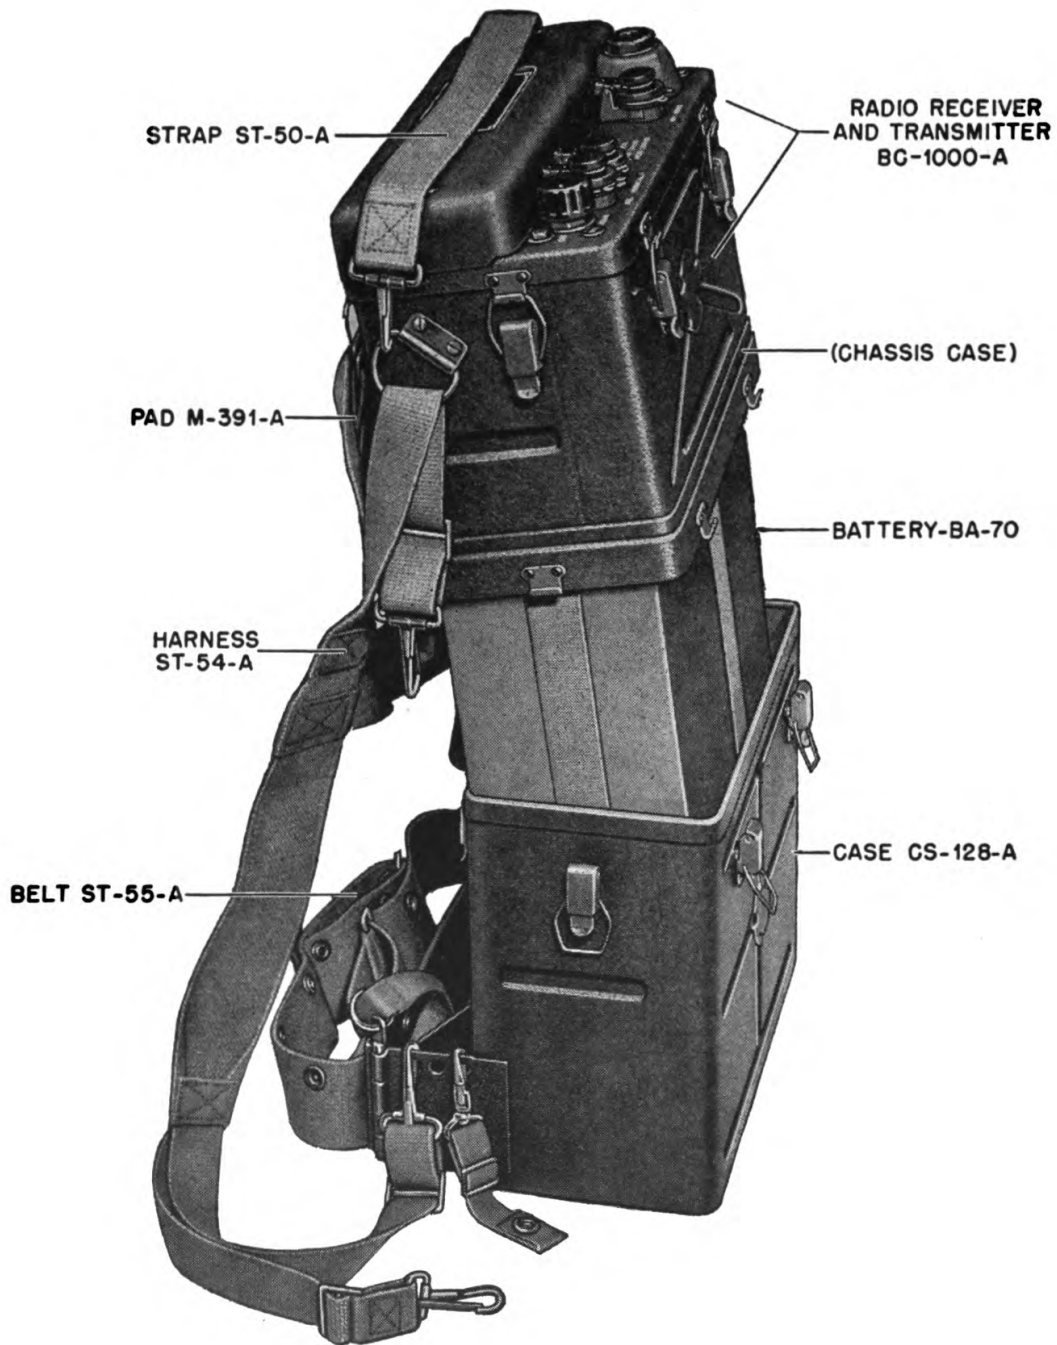

Figure 13. Radio Set Housing Assembly After Battery Installation.
(6) Lift the Radio Set with battery attached and lower the battery gently into the case. (See Figure 13).
(7) Fasten the battery case to chassis case with the six clip catches to complete installation of battery.